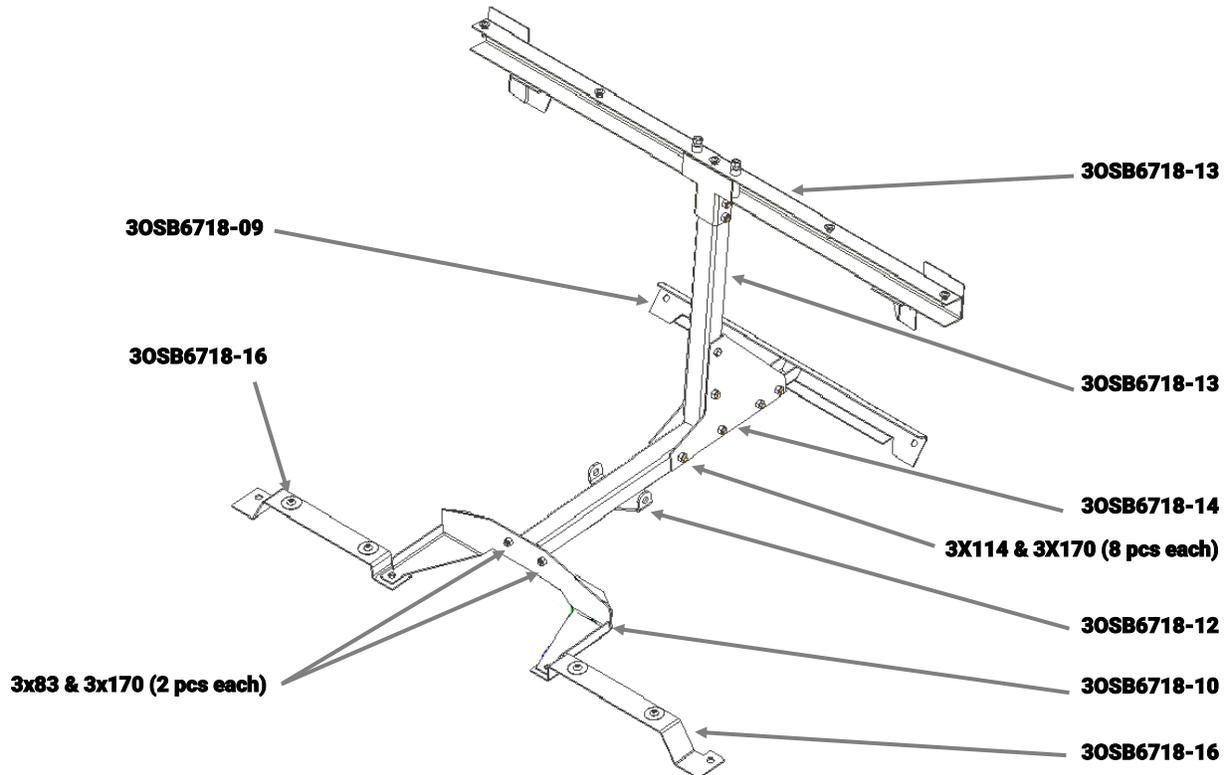

Fig. 3
- E. Place (in order) passenger (3OSB6718-16) and driver side (3OSB6718-15) Seat Brackets, and Front OSB Bracket (3OSB6718-10) Using OEM fasteners. Place Middle Bracket (3OSB6718-12) using two (3X83) bolts and (3X170) nuts, Gussets (3OSB6718-14), and Upright (3OSB6718-13). Fasteners (eight 3X114 bolts paired with eight 3X170 nuts) should be kept loose until all parts are aligned. (see Fig. 3)